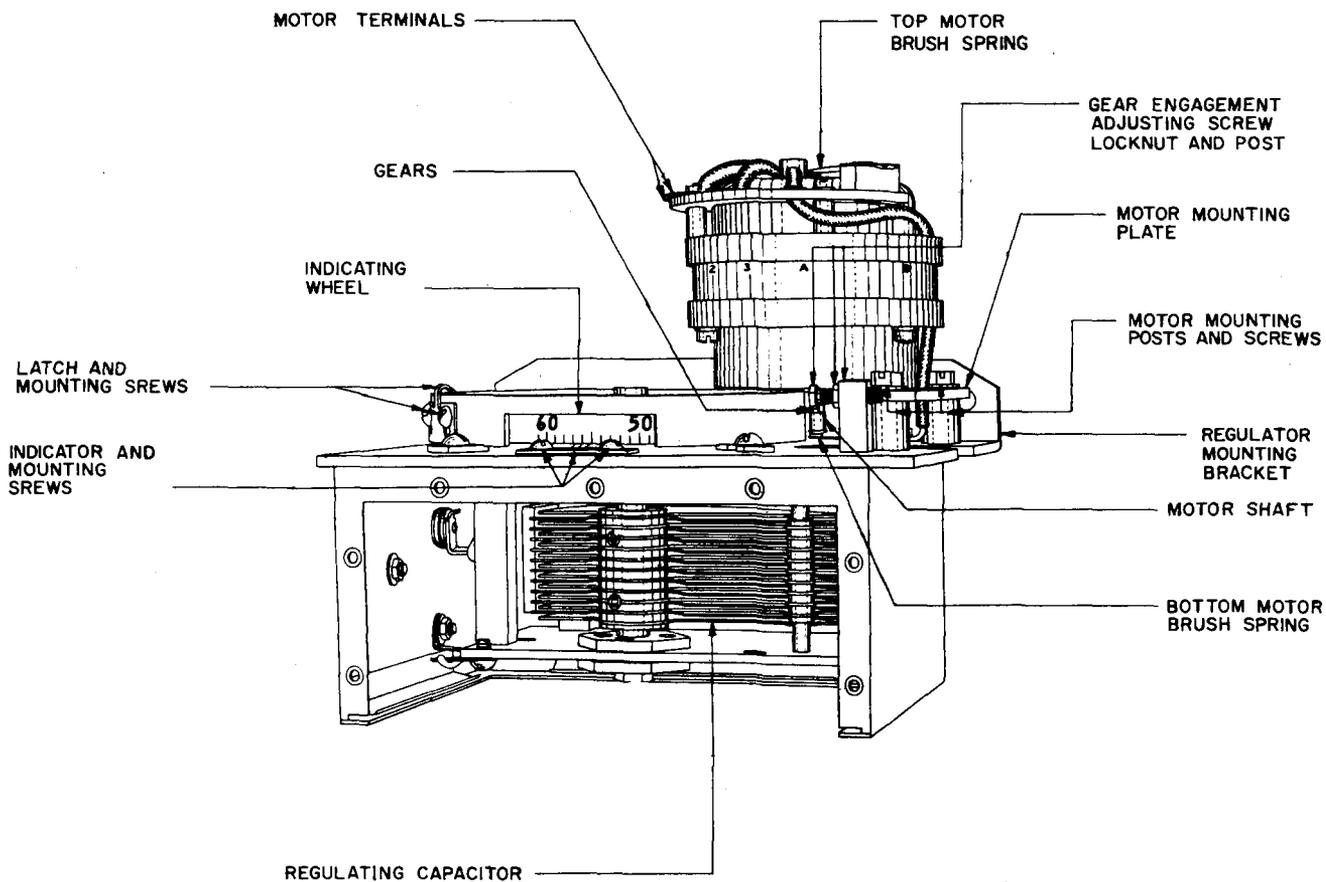

Fig. 1 - 100A Regulator — Capacitor Cover Removed
1.05 Checking and Readjusting for Requirements: All requirements shall be checked for and readjustments made, with the amplifier of which the 100A regulator is a part, removed from service. The plate and filament battery fuses shall also be removed to prevent damage to the equipment due to short circuits. All requirements are based on power being connected to the motor unless otherwise specified. (See Fig. 1.)